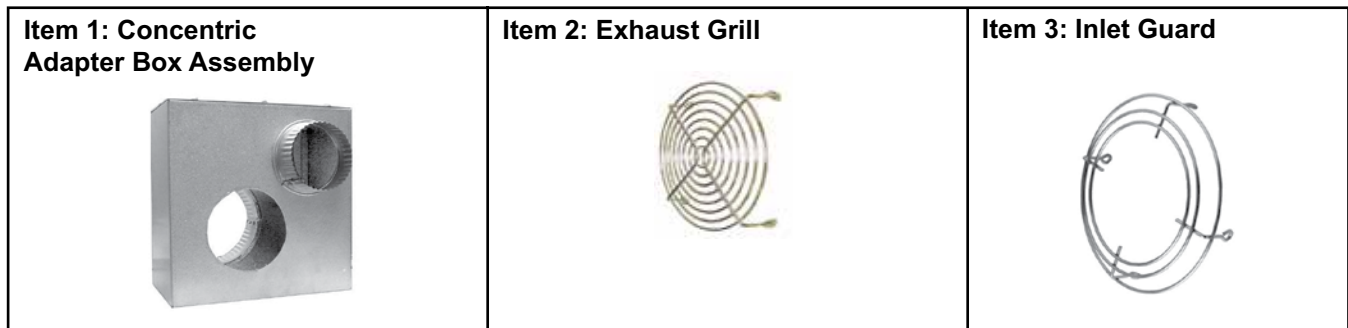

Figure 17. Horizontal Vent/Combustion Air Kits—Model SDH (Refer to Table 23)
- Vent terminal components for model SDH are shown in Figure 16 and Figure 17 and are listed in Table 22 and Table 23.